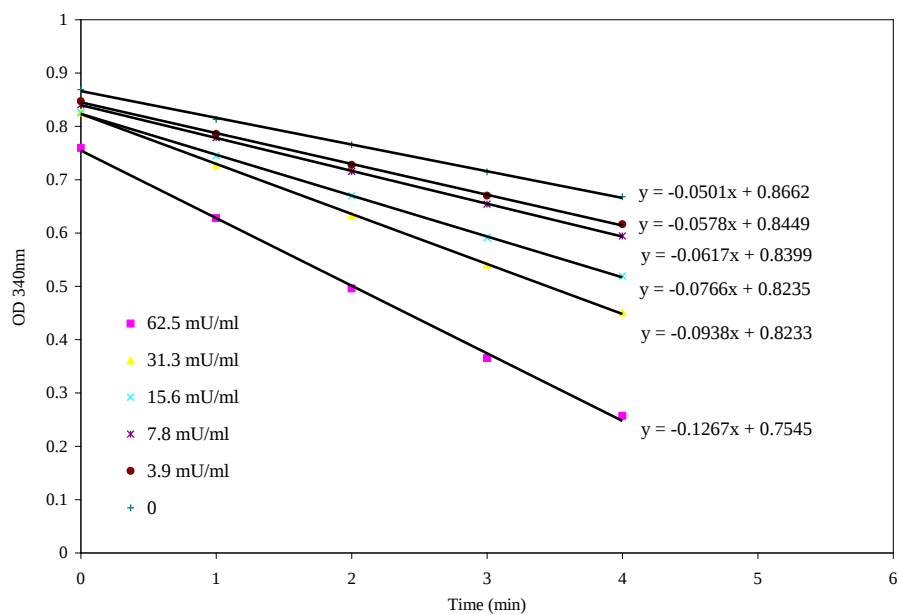
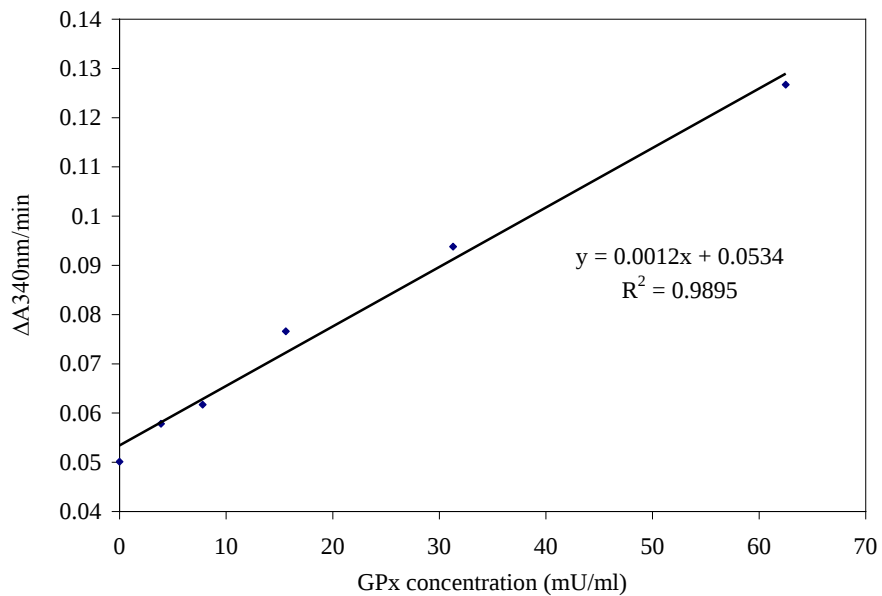

Figure 1. Absorbance at 340 nm as a function of time (interval: 1 min; Number of reading: 5).
Figure 2. GPx standard curve of $\Delta A_{340nm}/min$ vs. GPx concentration.
Serially diluted GPx solutions with concentrations ranging from 62.5 to 3.9 mU/ml are measured with the ScienCell™ Glutathione Peroxidase Assay. The decrease in A_{340nm} is monitored as a function of time (Figure 1), and the resulting standard curve of $\Delta A_{340nm}/min$ vs. GPx concentration are plotted (Figure 2). A positive linear relationship between $\Delta A_{340nm}/min$ & GPx concentration can be observed.
1. Plot the absorbance at 340 nm as a function of time to obtain the slope ($\Delta A_{340nm}/\text{min}$) of the linear portion of the curves (e.g. Figure 1).
2. Plot a GPx standard curve of $\Delta A_{340nm}/\text{min}$ vs. GPx concentration (e.g. Figure 2).